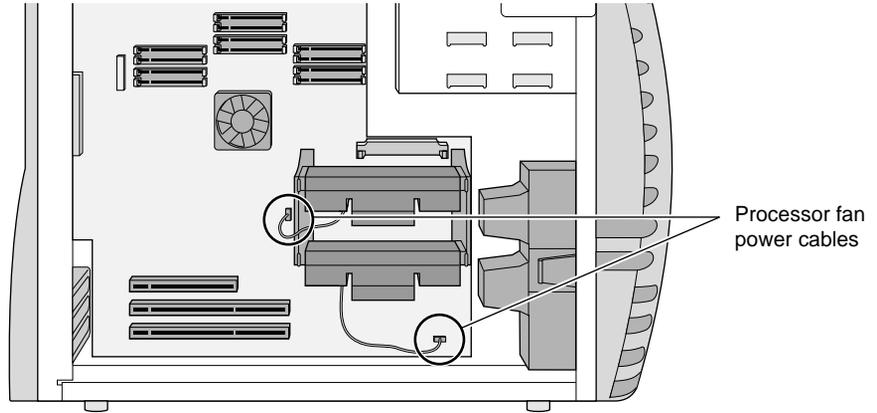

Figure 6-8 Detaching the Processor Fan Power Supply Cable from the Board
5. If the processor has a fan attached to it, disconnect the fan power supply cable from the associated connector on the system board, as shown in Figure 6-8.